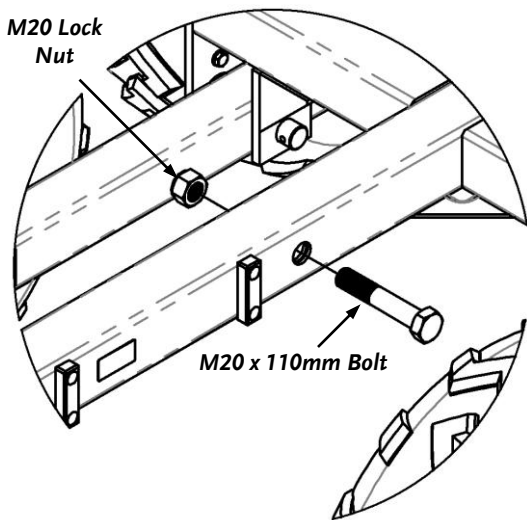

Figure 13
9. Install a M20 x 110mm Bolt and Washer (**Figure 13**) in the Mounting Hole, and install a M20 Lock Nut. Tighten with Adjustable Wrenches or a 30mm Socket and an Adjustable Wrench.